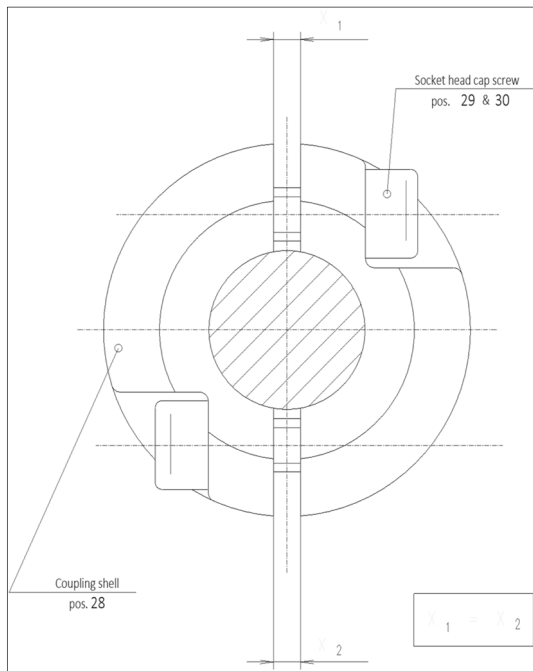
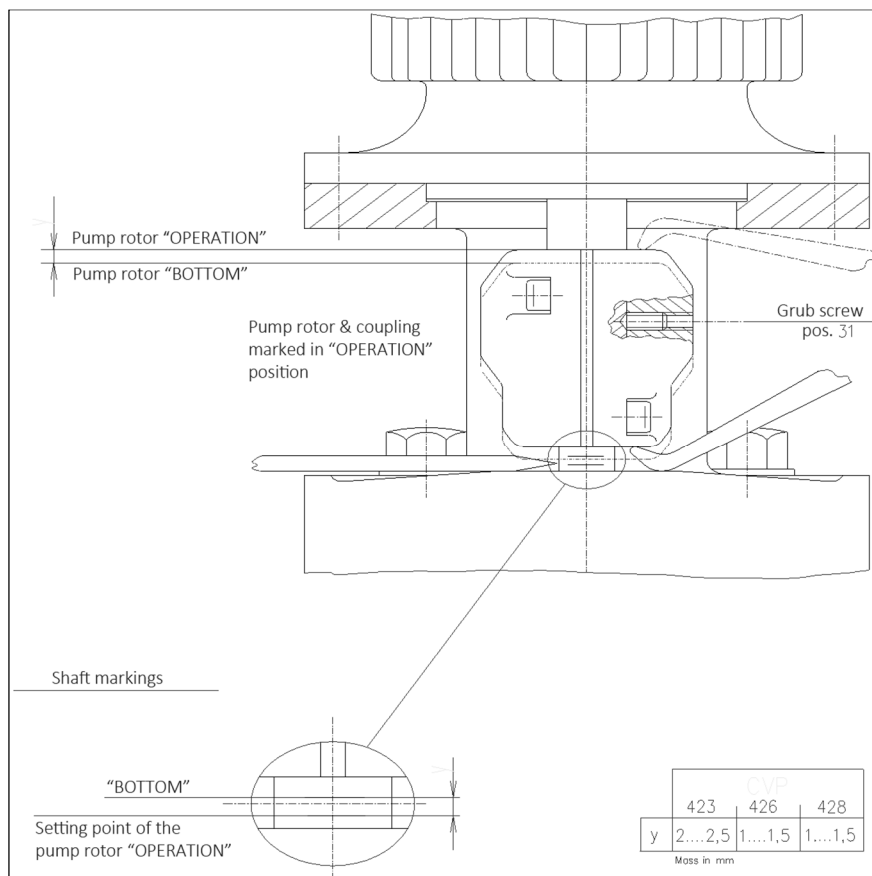

Figure 6: Overhead view of coupling
Figure 7: Adjusting the pump rotor
Remove the socket head cap screws (29 and 30) of the coupling shells (28), place the motor on the delivery casing (20 or 26), and secure with screws (see Table 14, pg 34). Manually tighten the socket head cap screws on the coupling shells slightly, ensuring that the gap between the coupling shells is even (→ Figure 6, pg 18). Please also refer to 6.1.3 Checking direction of rotation, pg 22 for information on checking the direction of rotation.
2. Raise the pump rotor with the coupling shells by the "y" dimension (→ Figure 7, pg 19) and mark the pump shaft.
3. Evenly tighten the socket head cap screws (29 and 30) (→ Figure 6, pg 18 and Figure 7, pg 19).
5. Drill a hole in the motor shaft and secure the coupling shells against axial shift with a grub screw (31).